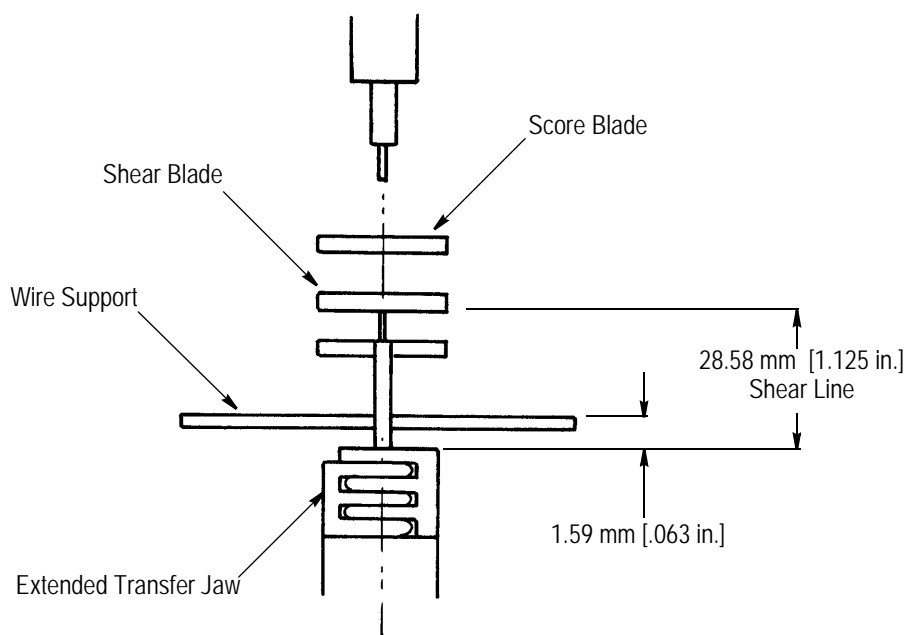

Figure 6
4. Remove the eject transfer jaws and replace them with the extended transfer jaws supplied with the interface kit. See Figure 6. Verify all of the clearances required for proper operation of the transfer assembly and make any adjustments, if necessary. For adjustment procedures, refer to the customer manual supplied with the Komax Model 40 machine.